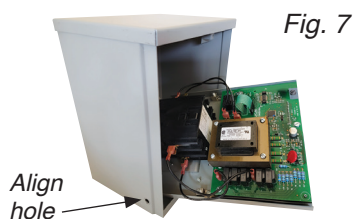

Fig. 7
13. Tilt front panel diagonally and insert the panel into the enclosure as seen in **Fig. 7**.
14. Lay the front panel horizontally in the enclosure and align the holes on the sides of the case one at a time also seen in **Fig. 7**.